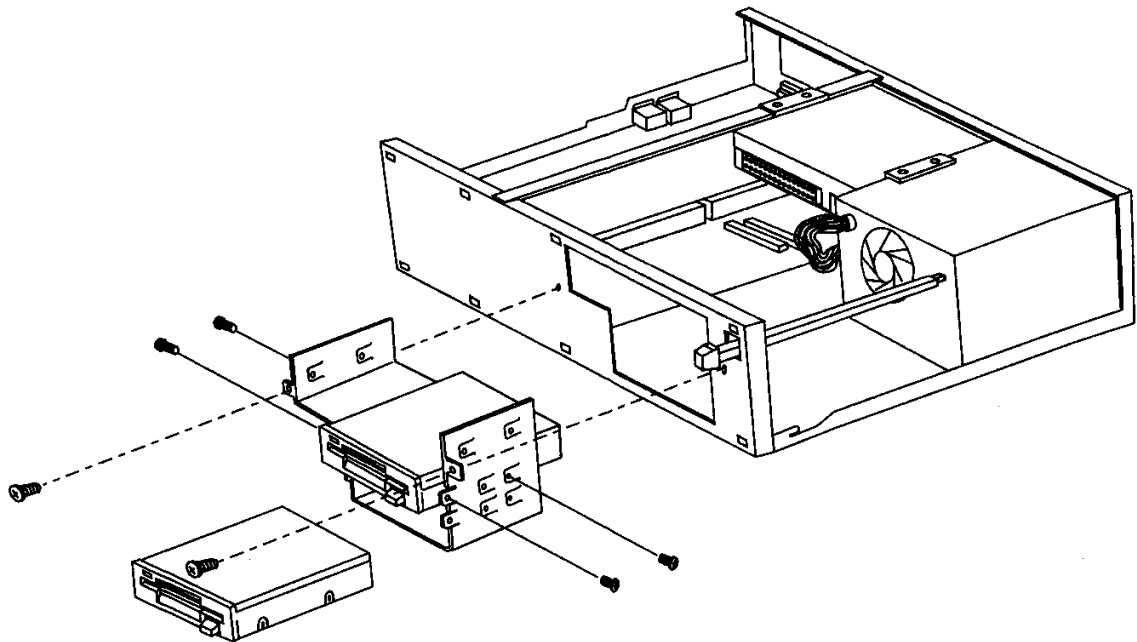

Figure 6-2. Front drive bay bracket removal
6. Unscrew the two front mounting bracket screws and slide the bracket and drive(s) out of the main unit as illustrated in Figure 6-2.